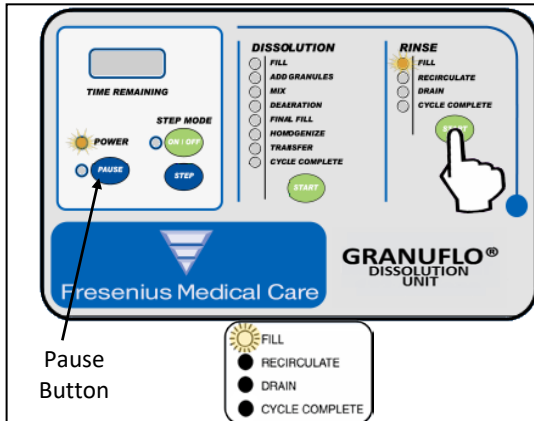

Figure 16
- Turn the power switch ON and ensure that the Water Supply Valve is OPEN then press the Rinse START button. The Fill Indicator Light will illuminate indicating the RINSE CYCLE has started and the GranuFlo Dissolution Unit II is in FILL Operation (Figure 16).